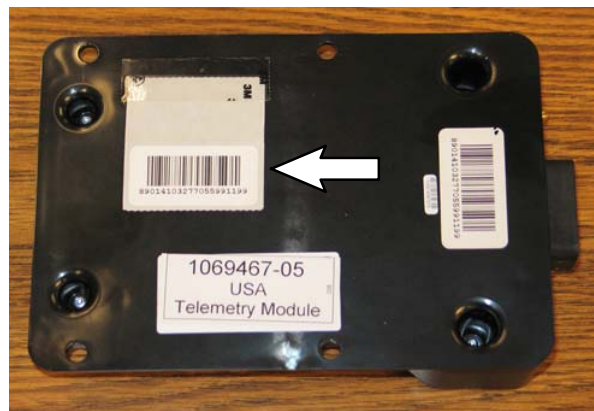

FIG. 1
1. Remove the additional SIM label from the back of the control box (1) and set label aside in a safe place. The number on the SIM label will be needed for activating the machine. (Fig. 1)